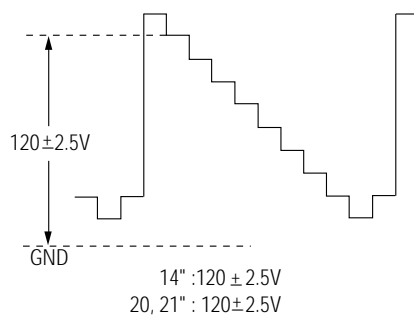

Fig. 4-1
4. Adjust the Screen VR (on the FBT) so that the voltage on the oscilloscope becomes $120 \pm 2.5V$ (See Fig. 4-1).